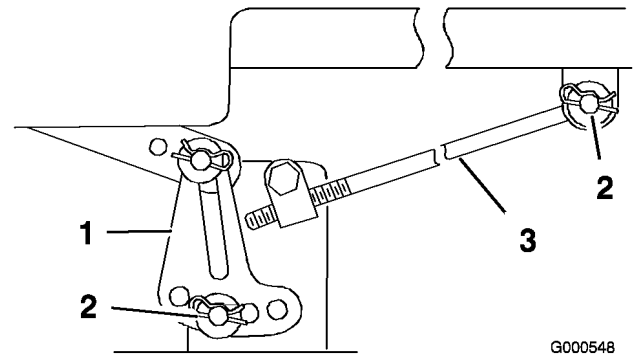

Figure 48
Note: Before removing the mower, make a note for which holes are used in the leveling brackets (Figure 48).
5. Remove the hairpin cotter and washer from the adjusting rod (Figure 48) on each side of the mower.
6. Remove the hairpin cotter and washer at the mower leveling brackets (Figure 48) on each side of the mower. Note which hole the leveling bracket is mounted in for future installation. Slide the brackets off of the mounting pin.
5. Attach the adjusting rod to the machine with the washer and hairpin cotter (Figure 48) on each side of the mower.
6. Slide the leveling brackets onto the mounting pins and secure them with the washers and hairpin cottes (Figure 48).